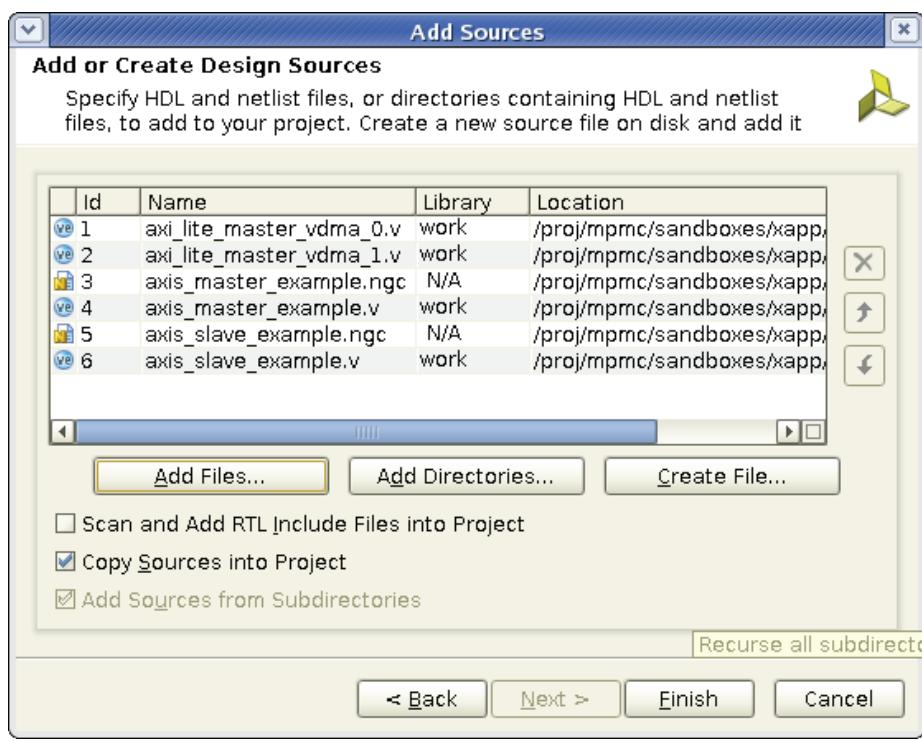

Figure 59: New Source File Association Selection
54. Associate these files as shown in Figure 59 and click **Finish**.